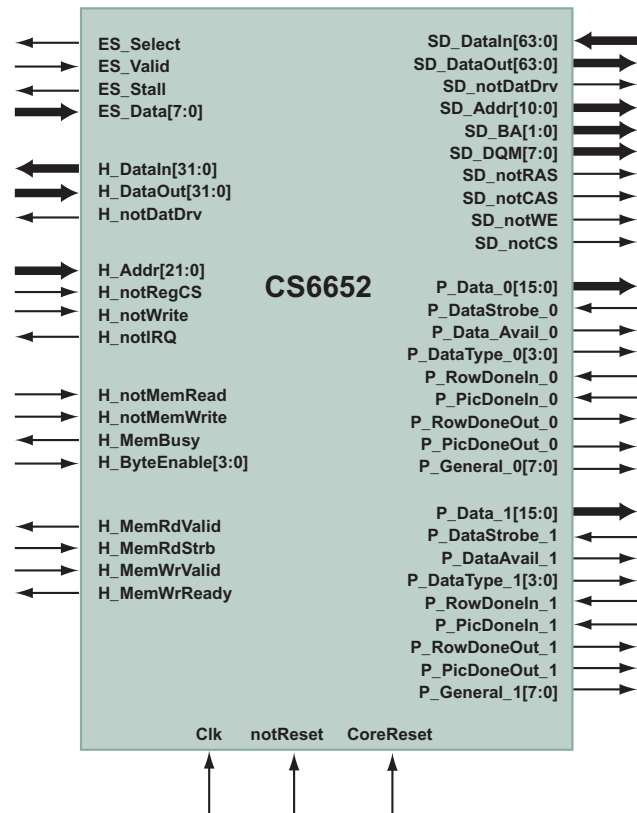

Figure 2: CS6652 Symbol
Table 2 gives the descriptions of the input and output ports (shown graphically in Figure 2) of the CS6652 MPEG-2 multistream video decoder. Unless otherwise stated, all signals are active high and bit(0) is the least significant bit.